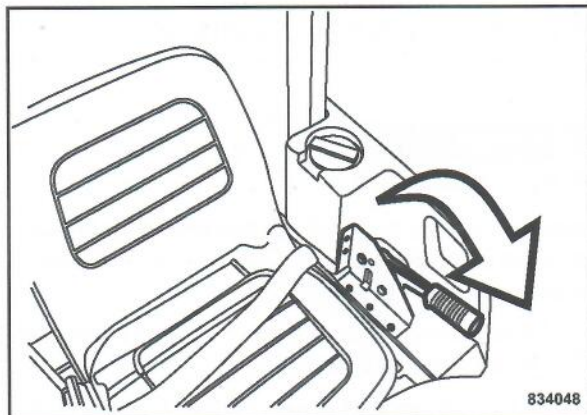

Fig. 34
- Release the parking brake lever (Fig. 34).